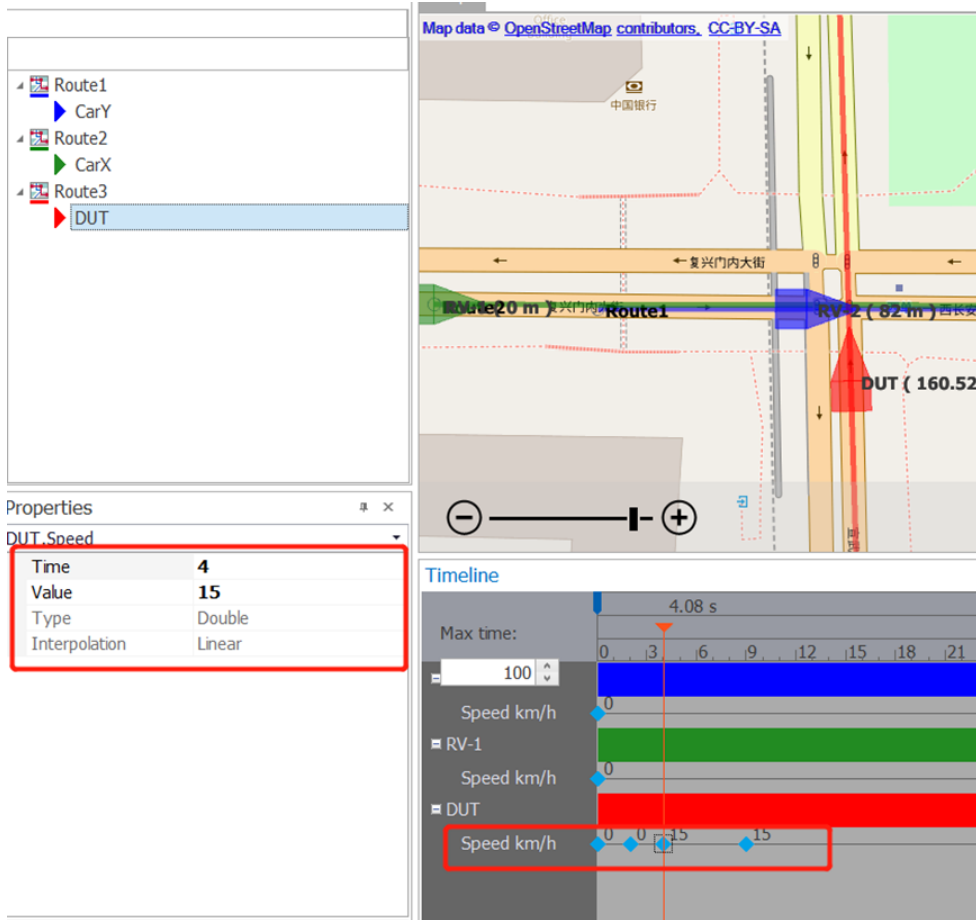

Figure 17: Edit HV parameter
- ▶ Drag the DUT in the map at the intersection as the initial position. In the timeline window: edit the vehicle waypoint to simulate the starting of the HV. (0s-0km/h;2s-0km/h;4s-15km/s,9s-15km/h) (Figure 17).